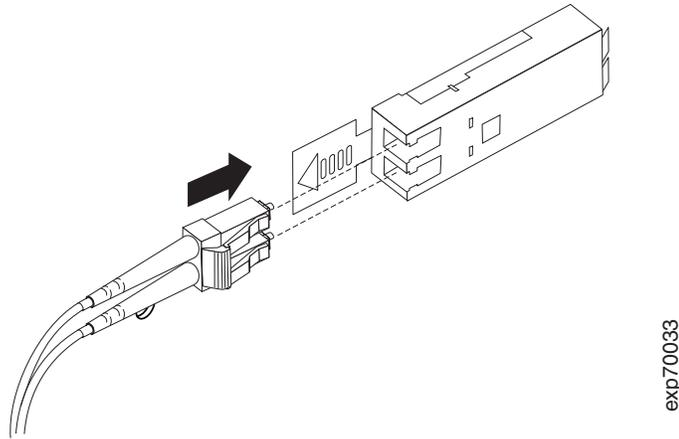

Figure 27. Inserting an LC-LC fibre channel cable into an SFP module
4. Carefully insert that same end of the LC-LC cable into an SFP module that is installed in the storage expansion unit. The cable connector is keyed to ensure it is inserted into the SFP module correctly. Holding the connector, push in the cable until it clicks into place, as shown in Figure 27 on page 37.